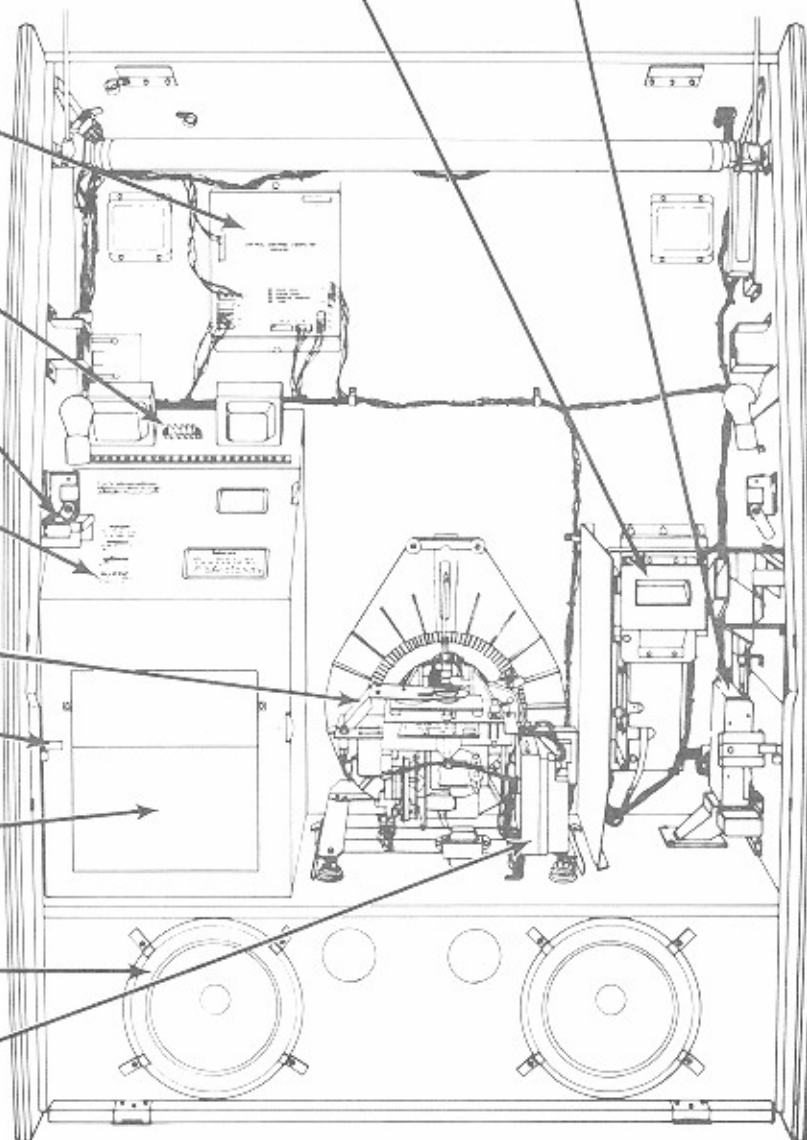

Figure 1-1. CD-100B Major Components
2. Open the front door by pressing down on both front door latches (*see figure 1-1*).
Figure 1-1 shows the major CD-100B Phonograph components. Take a minute to familiarize yourself with these components.